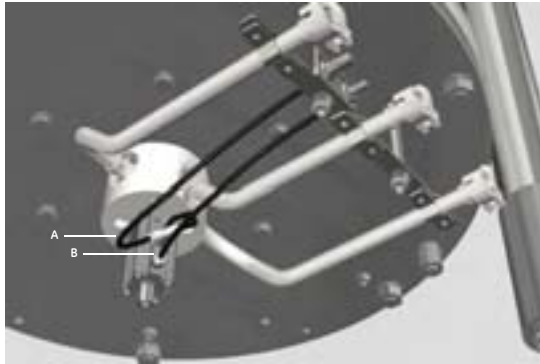

Figure 5.67: Pneumatic tubes A and B, the connection between the pneumatic cylinder and the tube holder.
- 5 Firmly press the release washer and hold it into the connector while removing the pneumatic tube from pneumatic cylinder (see Figure 5.67 A). Repeat the procedure to disconnect the other pneumatic tube (B).